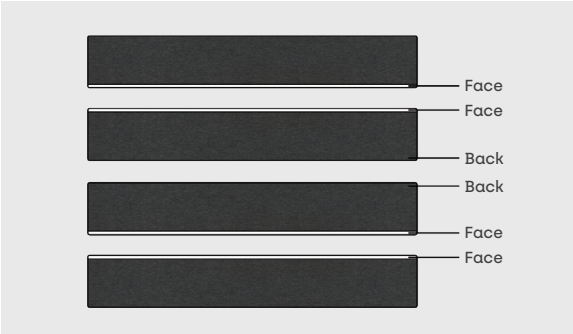

Figure 1-2
② Boards should be stacked face-to-face or back-to-back. Do not stack them face to back. As shown in Figure 1-2.